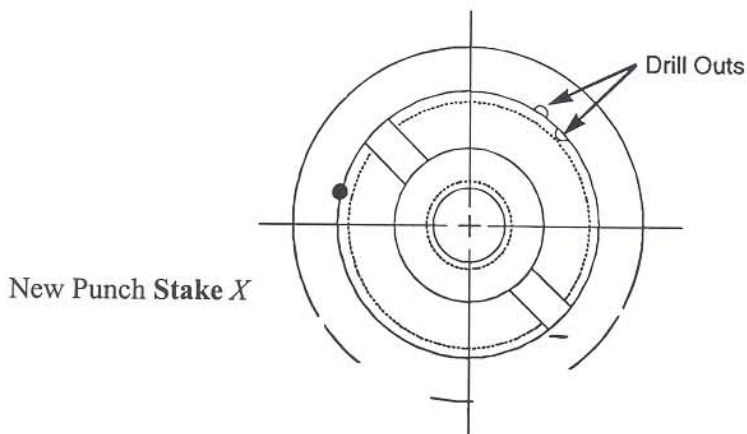

Figure 5
3. A new punched stake will be required. This may be located in any other spot at the mating threads (see Fig. 5). Use a 60° punch and stake so that depth does not exceed  $3/64$ ". Re-staking must be done after the jack body is assembled.